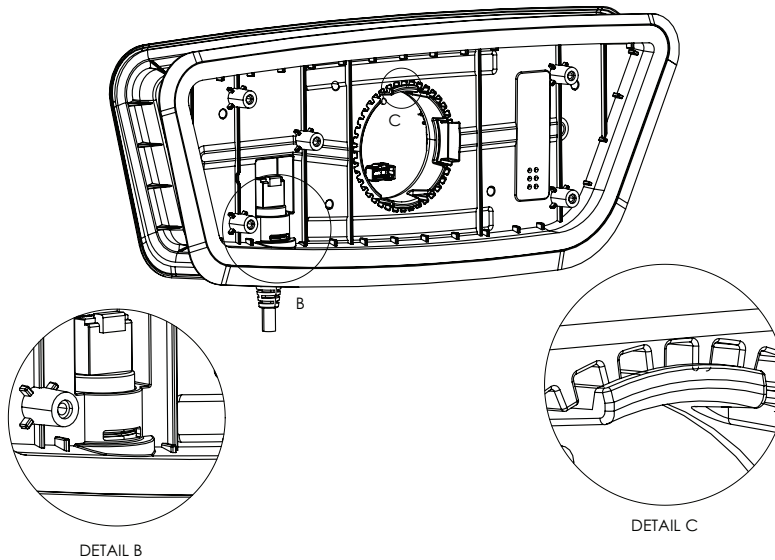

**Figure 22 – Siderail control panel assembly**
4. Using a slotted screwdriver, remove the foil (A) from the disassembly side (Figure 22). Discard the foil.
6. Using a slotted screwdriver, push down on the RJ50 cable (Figure 23, Detail B) to gain clearance to remove the PCBA (D) (Figure 22). Press on the top side and on the O-ring. A small pulling force on the cable is beneficial.